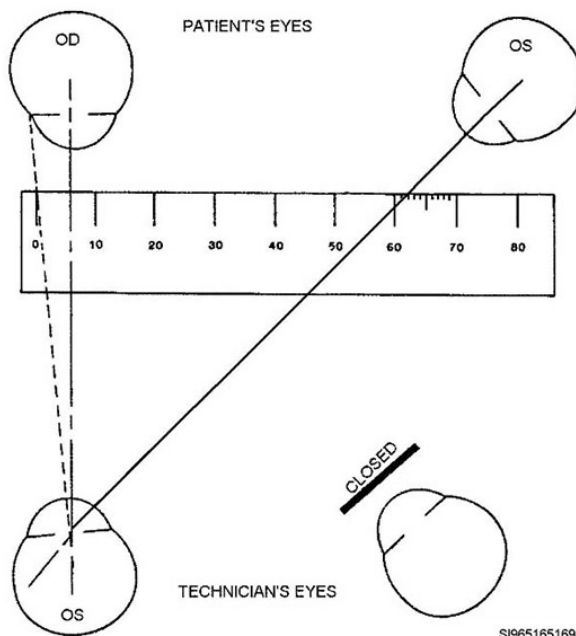

Figure 2-67. Lining up the zero mark of the PD ruler with the patient's right lateral limbus (using your left eye).
- c) Line up the zero mark of your ruler with the patient's right temporal limbus (fig. 2-67). Be careful to keep the ruler parallel with the patient's face. Once the zero mark has been lined up, DO NOT MOVE THE RULER.